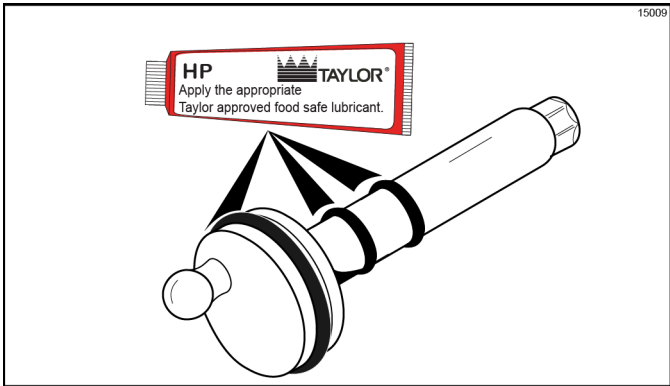

Figure 6-42
13. Slide the large black O-ring and the two smaller black O-rings into the grooves on the driveshaft. Thoroughly lubricate the O-rings and shaft. Do not lubricate the hex end of the shaft. (See Figure 6-42.)